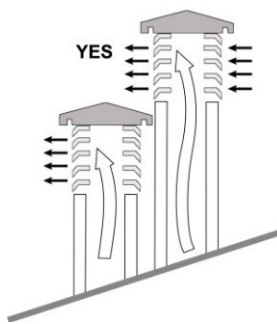

Fig.6
- Whenever using parallel output chimneys, it is advisable to raise a bracing element. (Fig.6)